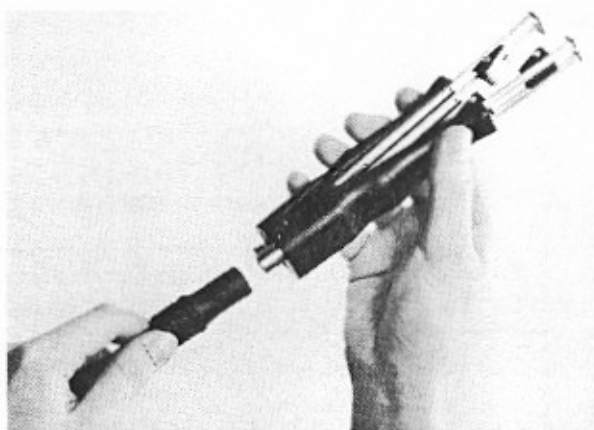

FIGURE 4. UNIVERSAL CORD ATTACHMENT
- attach the quick connect Universal Cord to a Functional Accessories Tool (refer to Figure 4). The Universal Cord provides rapid interchange of various Functional Tools and eliminates the need for a separate integral power cord,